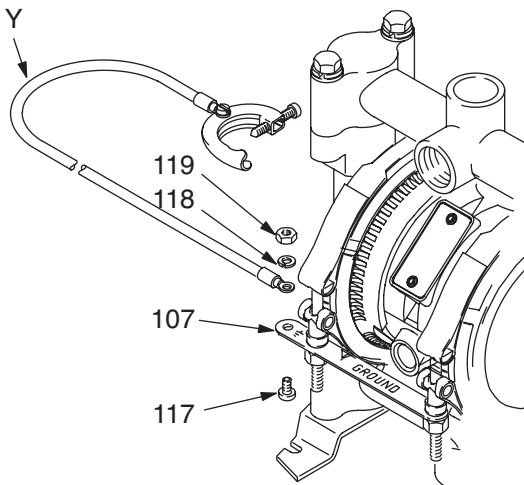

FIG. 1
**Pump:** Attach ground wire (Y) to the grounding strip (107) with the screw (117), lockwasher (118) and nut (119), as shown in FIG. 1. Connect the clamp end of a ground wire to a true earth ground. To order a ground wire and clamp, order Part No. 222011.